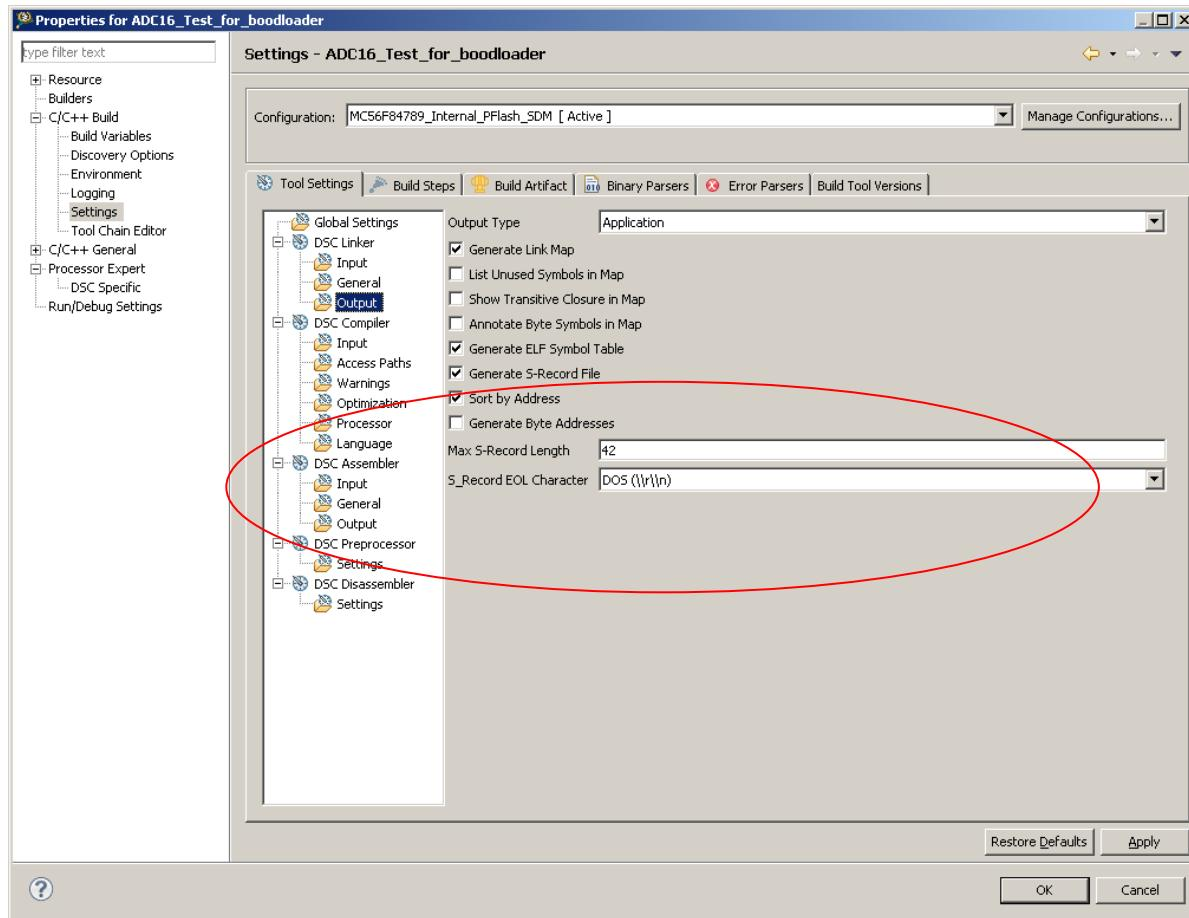

Figure 17. Configuration of generating s-record
1. S-record won't be generated by default; it should be enabled as shown in Figure 17. The option Sort by Address must be selected and the max s-record length shouldn't exceed 255. S-record EOL character should be DOS(\r\n).